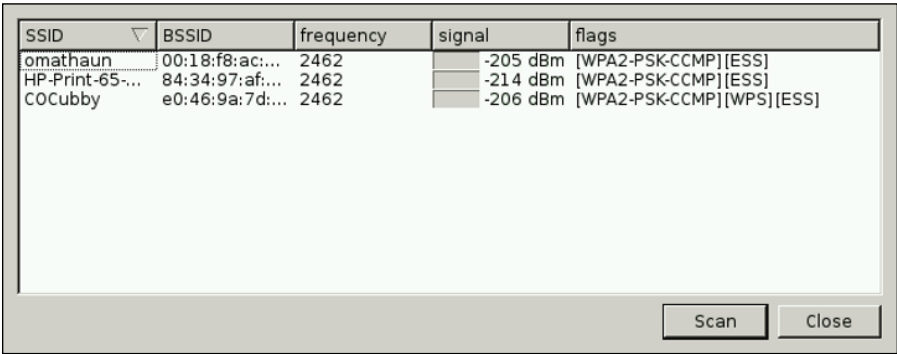

FIGURE 7-27: The Scan window
- 2. Click the Scan button. The supplicant scans for available APs and displays a list in a new window. See Figure 7-27.